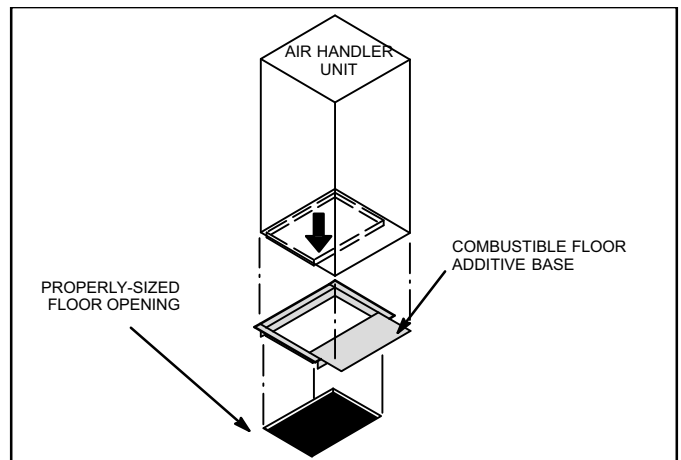

Figure 6. Combustible Flooring Additive Base
*NOTE - If downflow application is required, separately order kit number 83M57 and install per kit's instructions. Also, use metal or class I supply and return air plenums. On combustible flooring, use an additive base as illustrated in figure 6. and use the following procedures:*